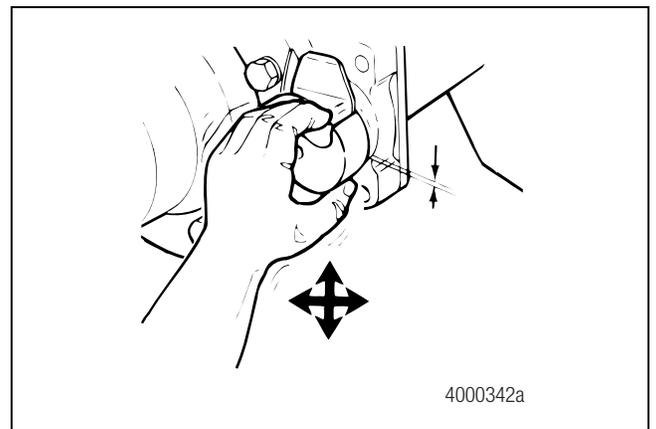

Figure 3.4
3. Check the up-and-down and side-to-side end play of the camshaft. Figure 3.4. If end play exceeds 0.030-inch (0.762 mm), replace the needle bearings. Use a press with the correct size driver to remove the needle bearing assemblies.